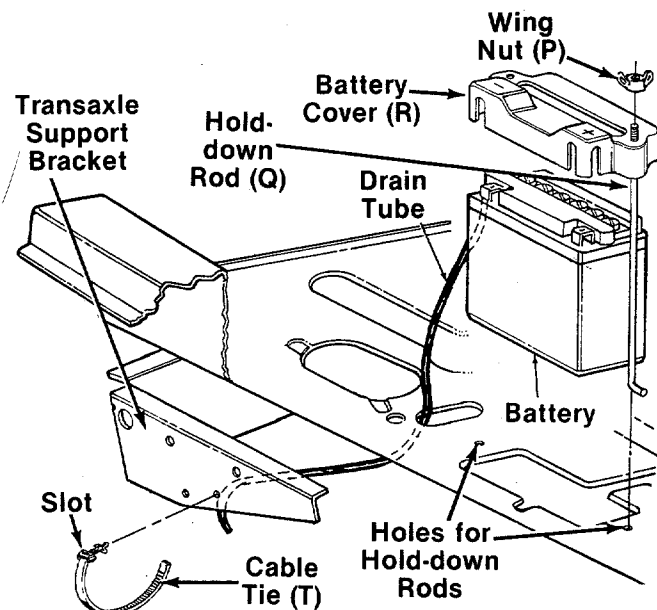

FIGURE 18.
5. Secure the battery in place with battery cover (R) and hold-down rods (Q). Secure with two wing nuts (P). See figure 18.
6. Route the clear plastic drain tube down through the hole in the frame shown in figure 18.
7. Push the locking end of cable tie (T) through the hole in transaxle support bracket. See figure 18. Place the end of cable tie through the slot so a loop is formed around the drain tube to secure it. Tighten cable tie and cut off excess end.